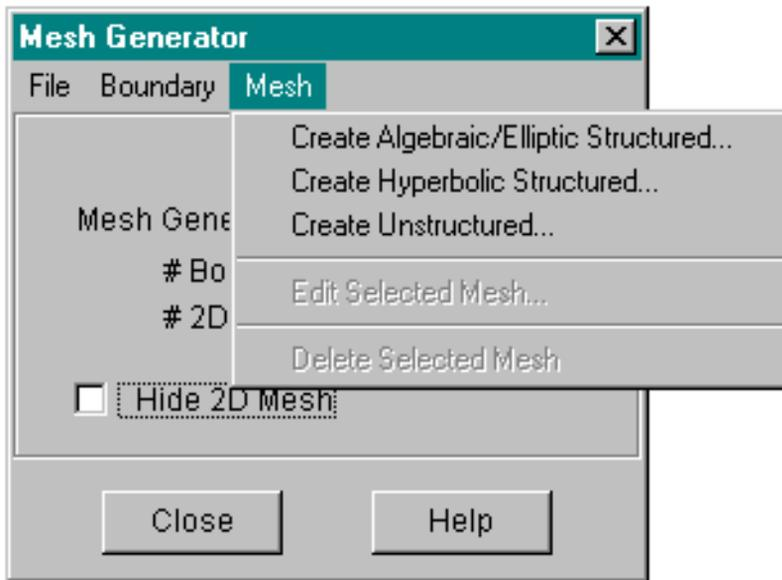

Figure 1-6. The Mesh menu.
1. Use the Mesh menu to select the create Algebraic/Elliptic Structured. The Mesh menu is shown in Figure 1-6. The Algebraic/Elliptic Structured dialog offers three methods for